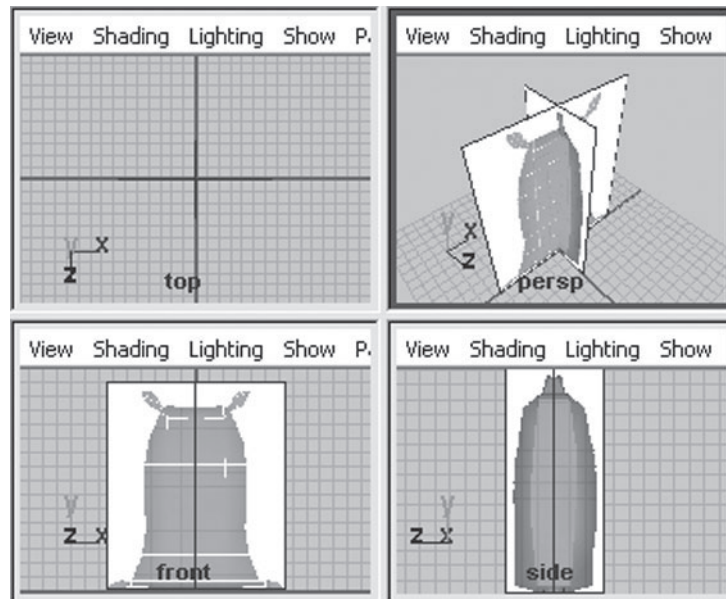

FIGURE 3.55 Image planes seen from all windows.
11. Enter the following values: Offset X, Y = 0, 0, Center X = 0, Center Y = 7.6, Center Z = 0, Width = 15, Height = 15 (see Figure 3.55).